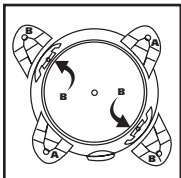

FIGURE 5
4. Take caster feet marked with the letter **B** and place on right front and left rear of tank also marked with the letter **B**. **FIGURE 5**.